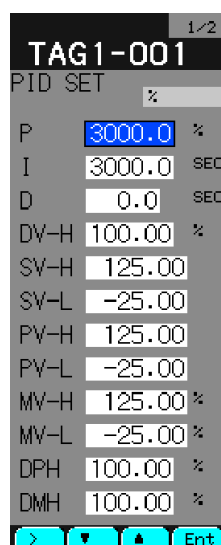

Fig. 4-16
- ④ At a status where the cursor is positioned at “1st Mdul”, press the “Sel” key to display the screen in Fig. 4-16.
- ⑤ Operate chameleon keys so that each parameter will be set the same as in Fig. 4-16 and 4-17.
- ⑥ Upon setting, press the “Chameleon change” key  to display the “Back” key on the chameleon key display area.
- ⑦ Press the “Back” key to resume the “PARAMETER SET” screen.